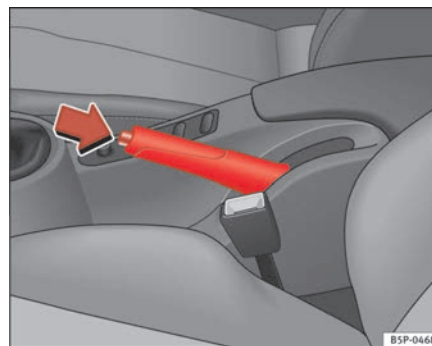

Fig. 145 Handbrake between the front seats
- Pull the handbrake lever up firmly ⇒ page 176, fig. 145.
- Pull the lever up slightly and press the release knob in the direction of the arrow ⇒ page 176, fig. 145 and guide the handbrake lever down fully ⇒ .